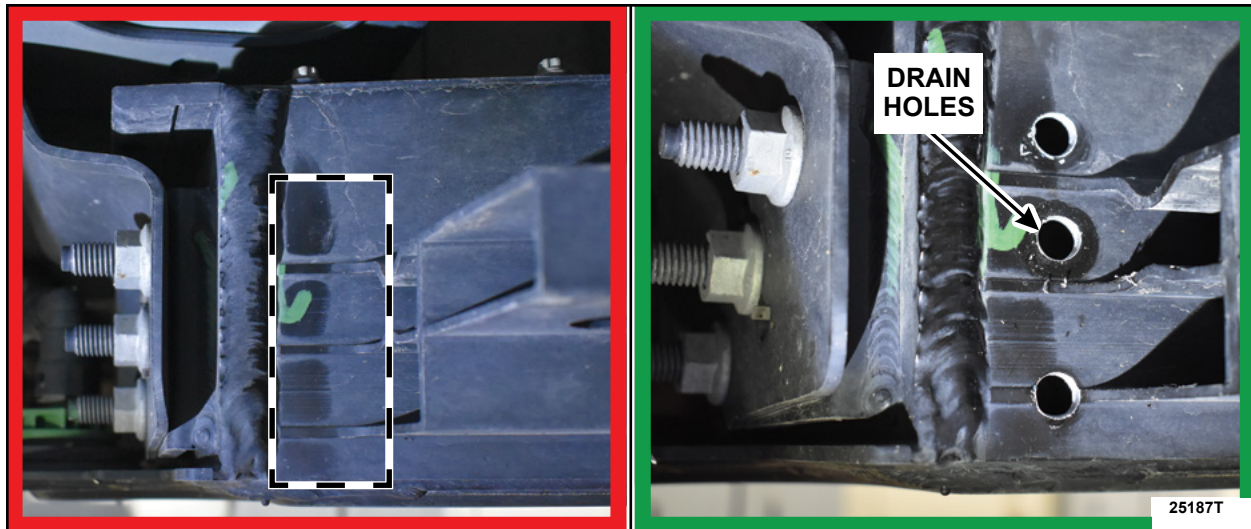

FIGURE 13
18. Inspect the front side rail channels of the *new* high voltage battery prior to installation. See Figure 13.